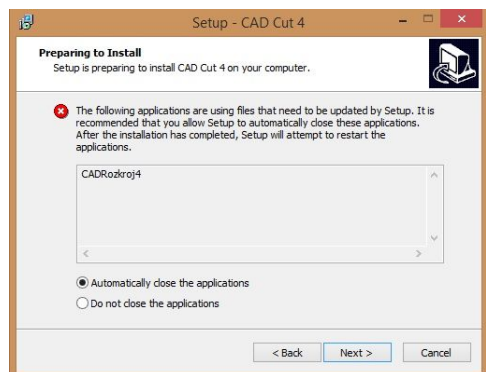

Fig. 14 – warning about running programs
- If the installation wizard detects any colliding running programs, it will inform you about this fact before starting the installation (Fig. 14).